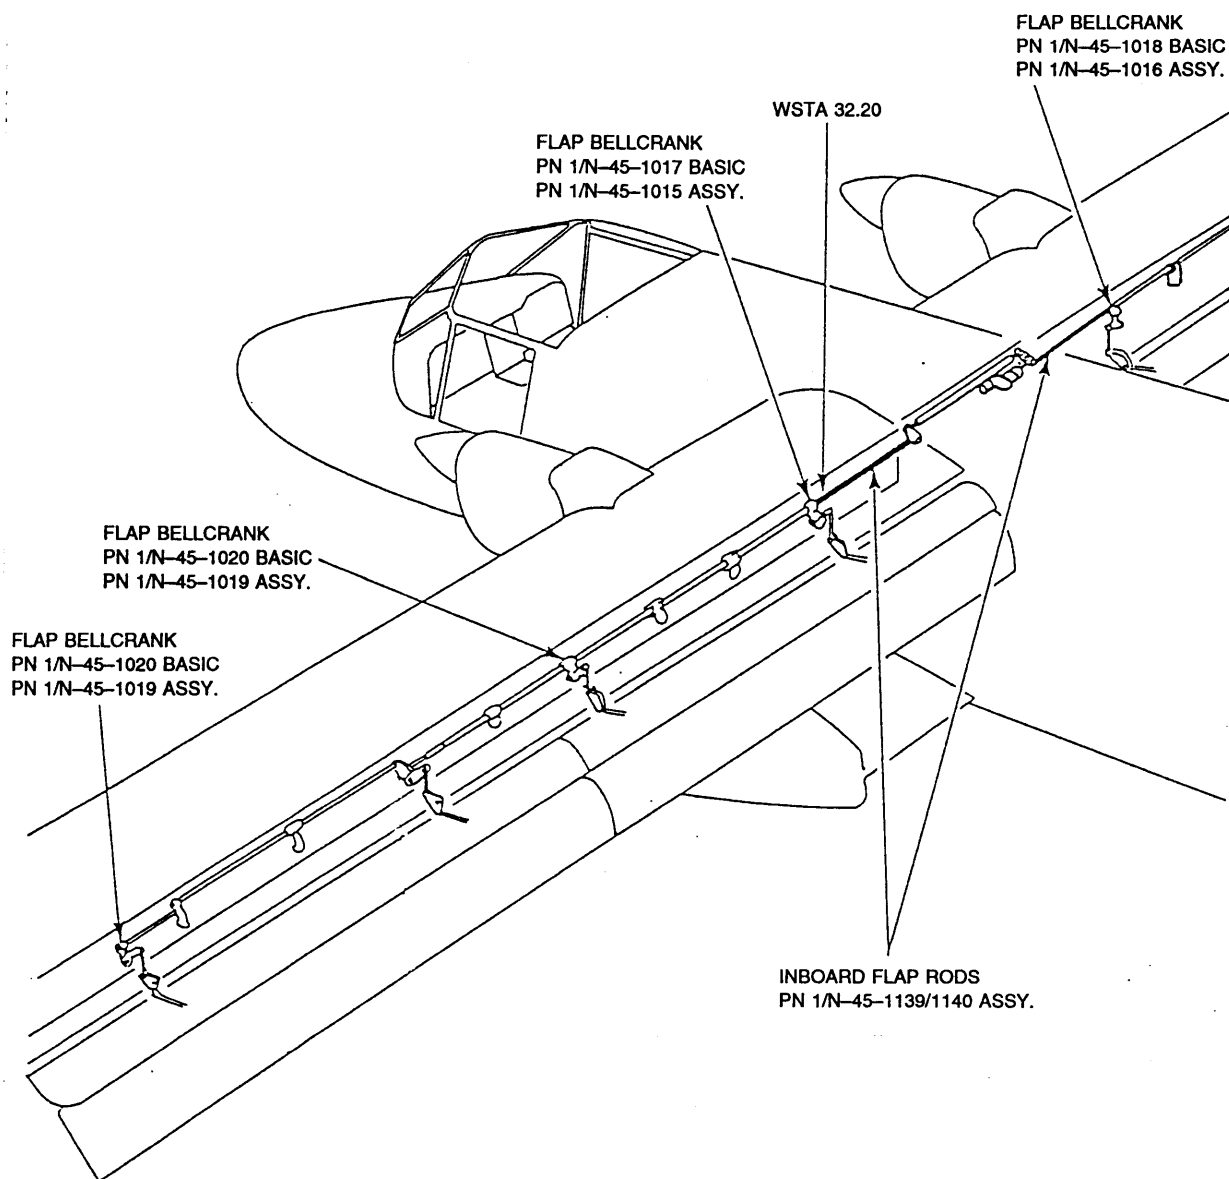
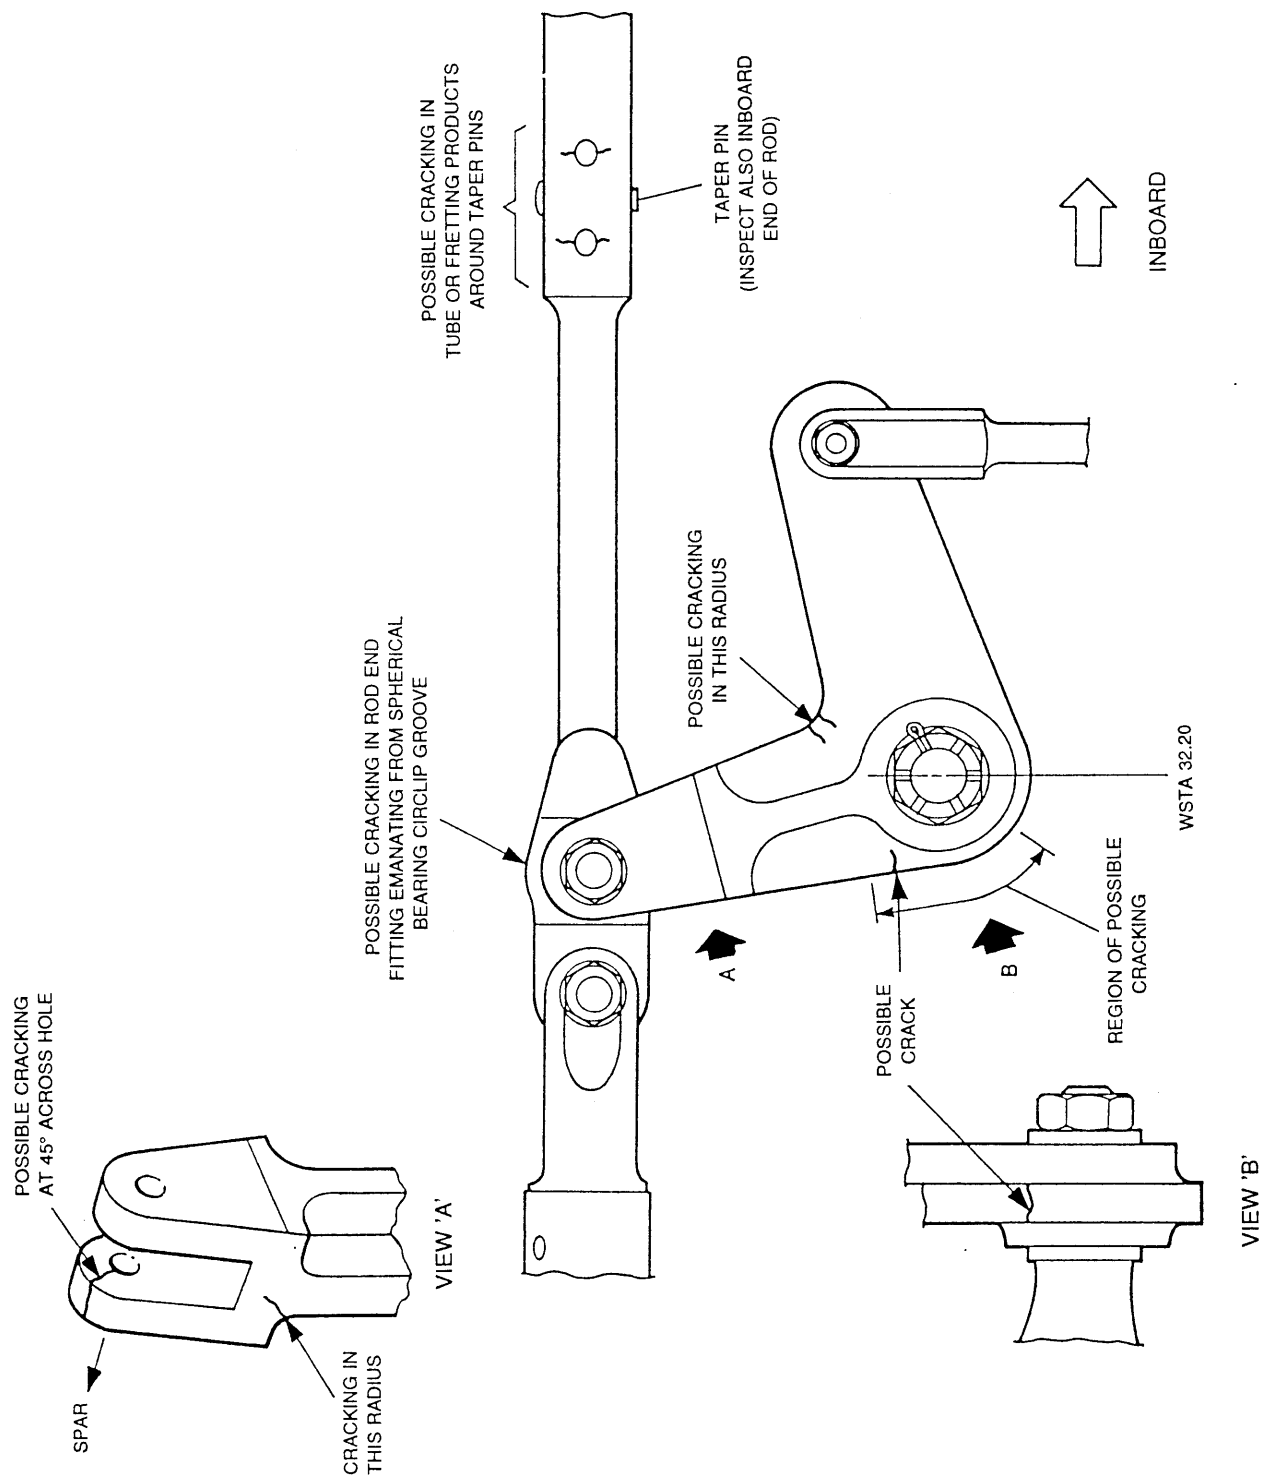

Figure 1 Flap Control Components, General Locations
Figure 2 Possible Cracking on Flap Bellcrank and Flap Rod End Fittings
- (2) Make sure aircraft electrical power is switched OFF and the flap circuit breakers are tripped.
- (3) Gain access to flap control rods PN 1/N-45-1139/1140, flap control bellcranks PN 1/N-45-1017/1018 and bellcranks PN 1/N-45-1020/1019 (Ref fig 1) by removing necessary access panels (Ref MM Chap 27-50-08).
- (4) Support the flap control surfaces.
- (5) As required, remove the existing flap control rods PN 1/N-45-1139/1140, bellcranks PN 1/N-45-1017/1018 and PN 1/N-45-1020/1019 (Ref fig 1) and replace with new items.
- (6) Remove the flap control surface supports.
- (7) Check the flap control system rigging (Ref MM Chap 27-50-00).
(2) Flap Control Rod Inspection
- (a) Visually inspect the inboard flap control rods PN 1/N-45-1139/1140 for cracking, fretting or corrosion and general condition, especially at the end fitting and taper pin areas (Ref Fig 2). A mirror will be required to view backside of the rods.
- Pay particular attention to the inspection of the end fitting attachment at wsta 32.20 (Ref Fig 2).
(3) Flap Bellcrank Inspections.
- (a) Visually inspect each of the bellcranks PN 1/N-45-1019/1020 (4 off) and PN 1/N-45-1017/1018 (Ref Fig 1) for possible cracking, corrosion and general condition (Ref Fig 2).